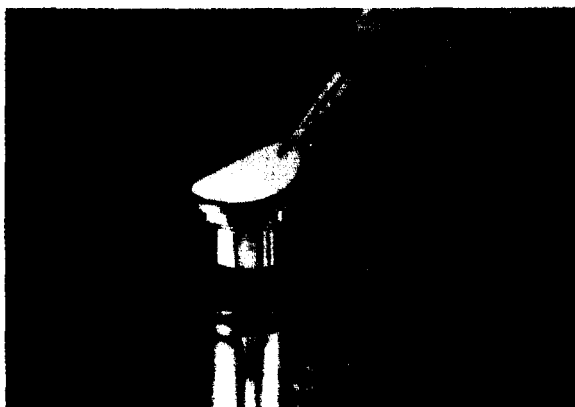

Fig. 2 Center filter accurately on support screen. Use forceps to avoid contamination or damage to filter.
- 3 With smooth-tip forceps, center a 47mm diameter Millipore filter on the screen (Fig. 2), with the gridded side up if a gridded filter is being used for later statistical counting procedures.